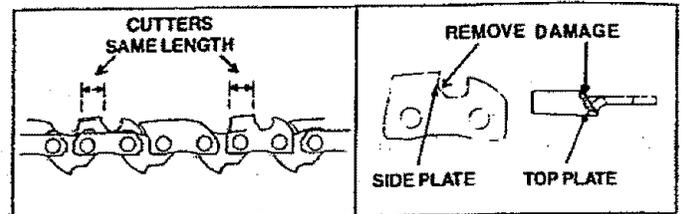

Figure 40
- d.) Keep all cutters the same length. Figure 40.
- e.) File enough to remove any damage to cutting edge (side & top plate) of cutter. Figure 40.